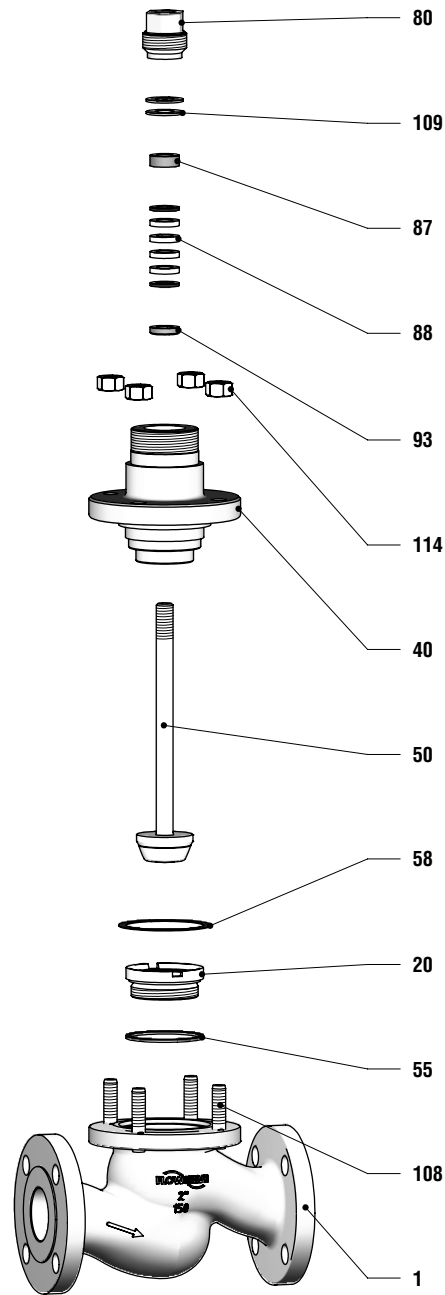

Figure 9: Disassemble / Reassemble the valve
1. Turn the bonnet nuts (114) counter clockwise to loosen (See Figure 9: Disassemble / Reassemble the valve).
2. Turn the packing follower (80) counter clockwise to loosen.
3. Remove the Belleville springs (109).
4. Remove the upper stem guide (87).
5. Place the Ring Nut Tool (See Section 16: Special Tools) on the stem (50) and turn slowly.